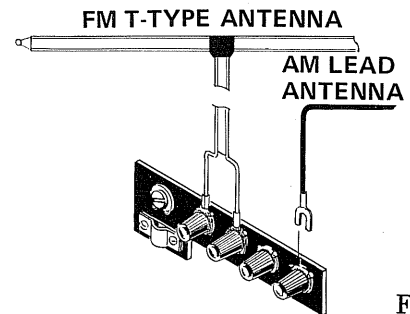

Fig. 4
- If the receiver is to be located in a wooden building and stations are nearby, use the T-type antenna which comes with the SX-6000. As shown in Fig. 4, connect the feeder terminals of the antenna to the FM antenna terminals. Stretch out the antenna proper and secure it to the ceiling or a wall in such a manner that pickup is optimum, as determined by listening to the stations to be received. Refer to "FM RECEPTION" on page 8.